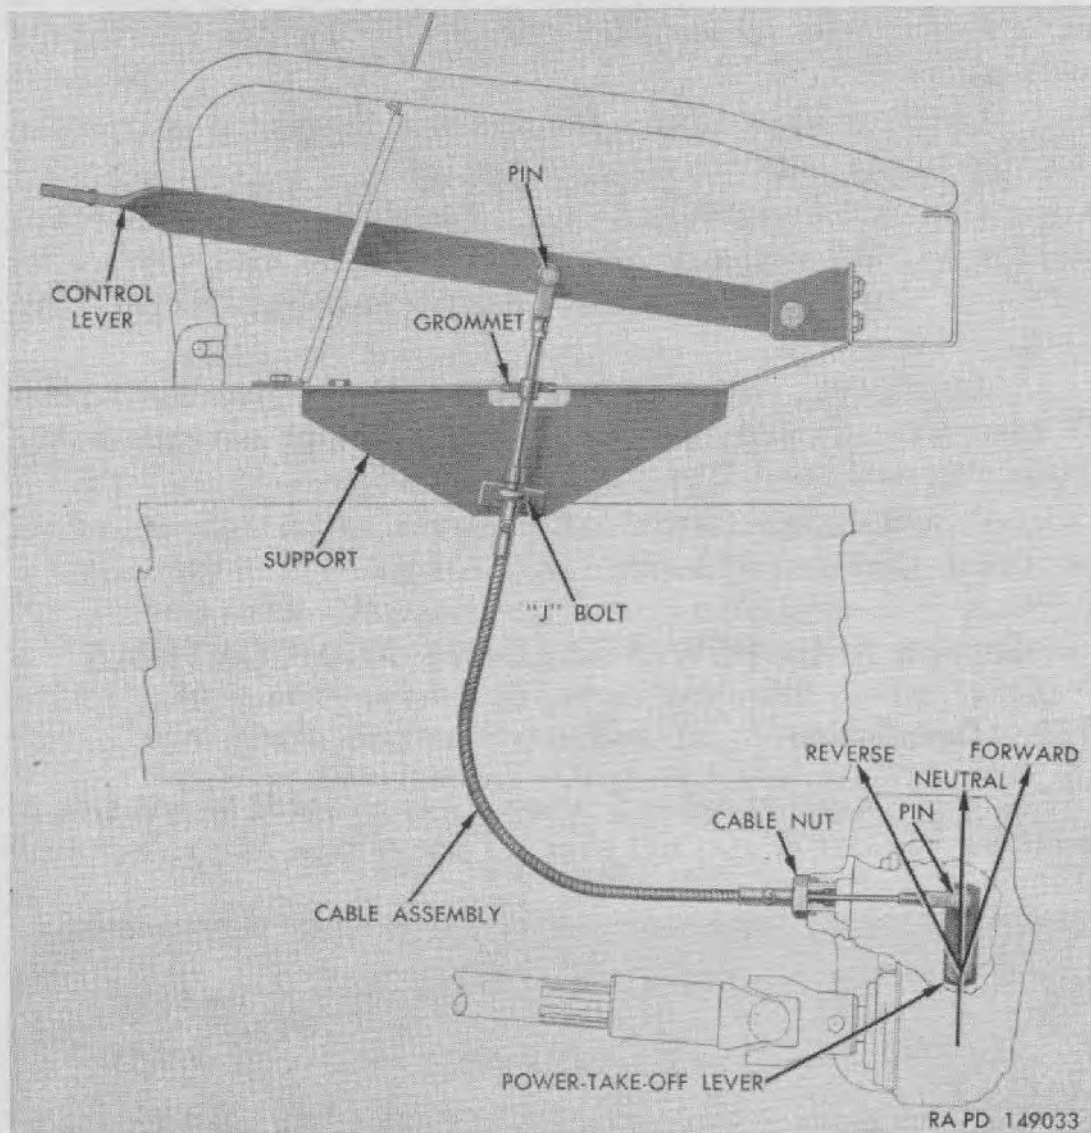

Figure 111. Power-take-off control linkage.
through drive shafts and universal joints. Power-take-off mechanism is placed into neutral, forward, and reverse driving positions by means of a manually-operated control lever, mounted under driver's seat. Lever is connected by cable linkage to shift lever on power-take-off (fig. 111). Operation of the power-take-off in conjunction with the winch is explained in paragraph 46.
a. GENERAL. The control cable assembly is connected to power-take-off control lever (in cab) and to shifting lever in power-take-off (fig. 111). Cable assembly is attached with a J bolt to a support bolted under floor pan. Cable assembly is equipped with an adjustable yoke at control lever (fig. 111).
b. LINKAGE REMOVAL (fig. 111).
- (1) Remove J bolt and nut attaching cable assembly to support under floor pan.
- (2) Remove pin from yoke at control lever.
- (3) Pull cable assembly down through rubber grommet in floor pan (under driver's seat).
- (4) Remove five bolts attaching cover plate to power-take-off. Reach in and remove clevis pin from yoke at take-off lever.
- (5) Loosen cable nut at power-take-off. Turn cable housing to remove cable assembly from power-take-off.
c. LINKAGE INSTALLATION (fig. 111).
- (1) Place nut and lock washer on lower end of housing; then insert lower end of cable into power-take-off. Install pin through yoke and take-off lever. Turn cable housing to thread housing into power-take-off case; then tighten cable nut securely.
- (2) Push cable assembly up through grommet in floor pan.
- (3) Attach cable assembly to support (under floor pan) with J bolt and nut. Make certain that J bolt engages groove in cable assembly.
- (4) With control lever in center slot of lock plate in cab (NEUTRAL) and shifting lever on power-take-off in vertical position (NEUTRAL), adjust yoke at control lever and at power-take-off lever for free entry of clevis pins without bind. Tighten jam nut at yoke.
- (5) Check action of linkage by placing control in lower slot in lock plate (FORWARD). Lever at power-take-off should move toward rear to engage power-take-off for pulling or winding in cable on winch (par. 46*b*). Place control lever in upper slot of lock plate (REVERSE). Lever at power-take-off should move forward to engage power-take-off for paying-out or unwinding cable on winch (par. 46*c*).
- (6) Install plate on side of power-take-off with five attaching bolts.
- (7) Lubricate cable through lubrication fittings in cable assembly (par. 57).